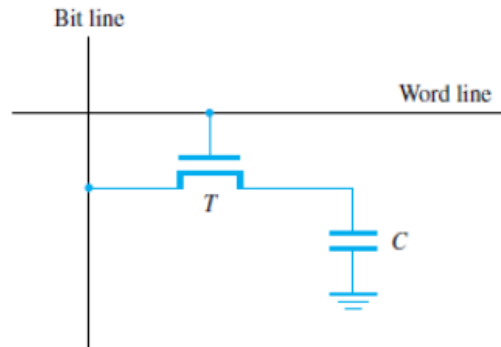

Figure 8.6 A single-transistor dynamic memory cell.
- In order to store information in the cell, the transistor T is turned 'ON' (Figure 8.6).